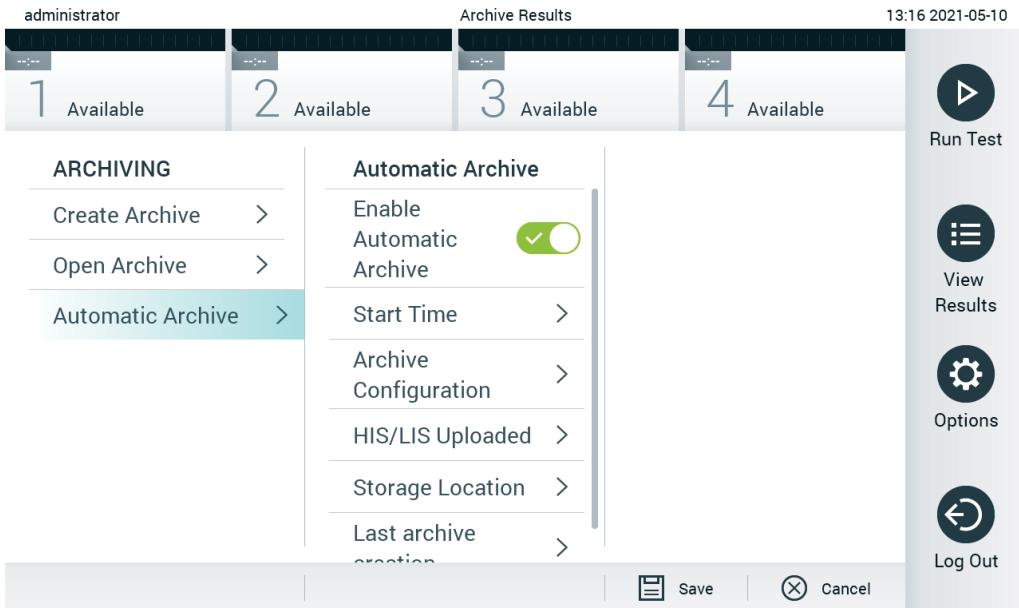

Figure 57. Automatic archive options.
2. Press **Automatic Archive** and enable the feature (Figure 57, next page).